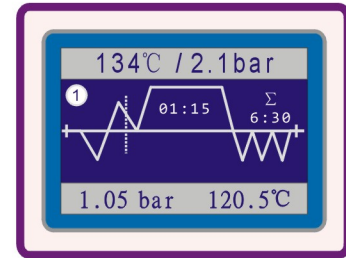

Fig.6.4-18
(4) **First times Exhaust stage:** when the pressure up to about 1.1 bar (134°C sterilization program) or about 0.9 bar (121°C sterilization program), the control system will open the exhaust-solenoid valve (Ev1) and drain water-solenoid valve (Ev5) for exhausting till pressure down to P=0.0 bar. LCD show "01:15", it is exhaust time countdown. If within 01:30, the pressure in chamber reaches in advance, sterilization program into the second pre-vacuum times stage in advance. (Fig.6.4-18)